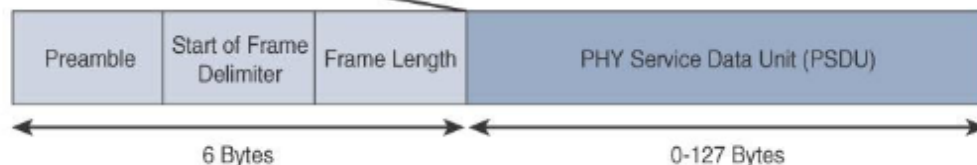

Figure 2.9 IEEE 802.15.4 MAC Format
- Each of these four 802.15.4 MAC frame types follows the frame format shown in Figure 2.9. In Figure 2.9, notice that the MAC frame is carried as the PHY payload.